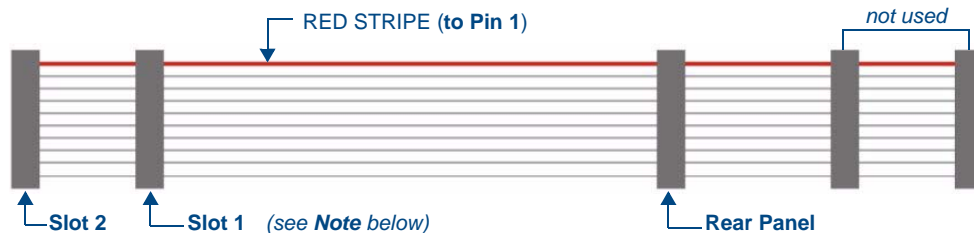

FIG. 66 Tuner Ribbon Cable
4. Place the Rear Panel connector at the end of the ribbon cable (FIG. 66) on the rear board pin-bus, keeping the red stripe at the top.
- Therefore, it is not required that the connections indicated in FIG. 66 are followed exactly, as long as the Tuner Jumper Settings are set correctly for each Tuner Module installed.